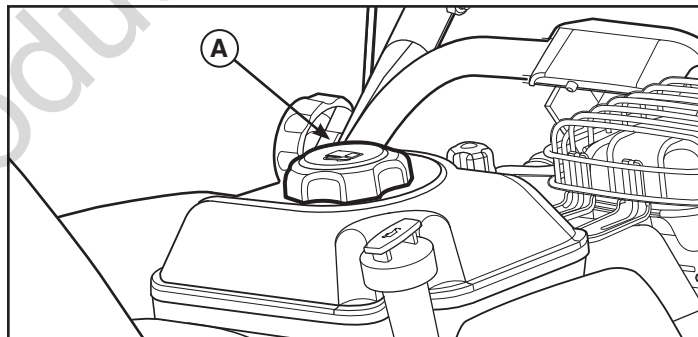

Figure 4
1. Clean the fuel cap area of dirt and debris. Remove the fuel cap (A, Figure 4).